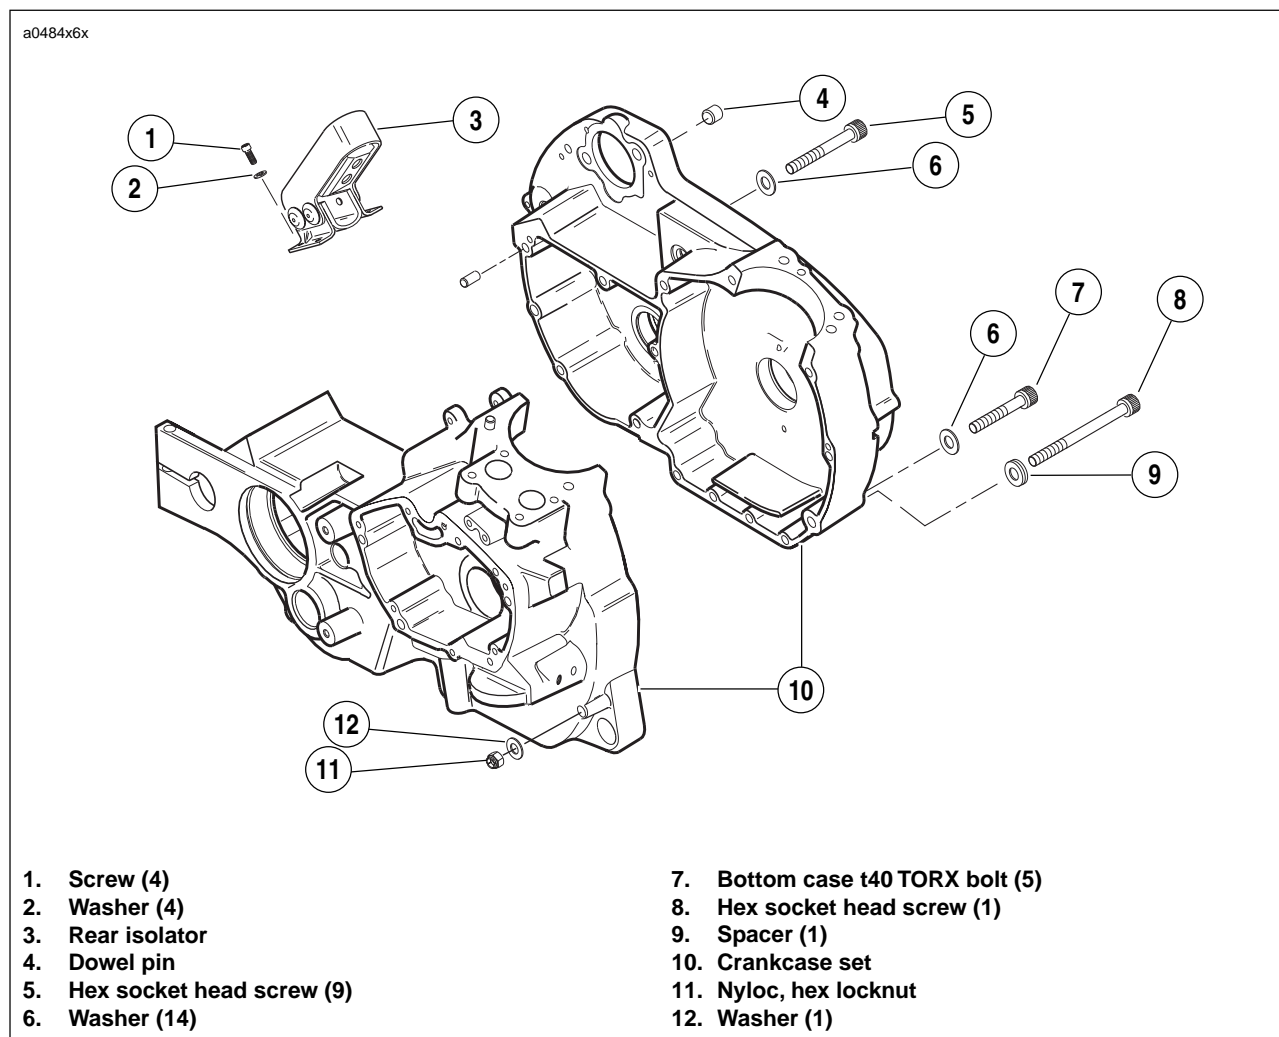

Figure 3-112. Crankcase Hardware
7. See Figure 3-112. Remove screws and rear engine mount bolts securing crankcase halves together.